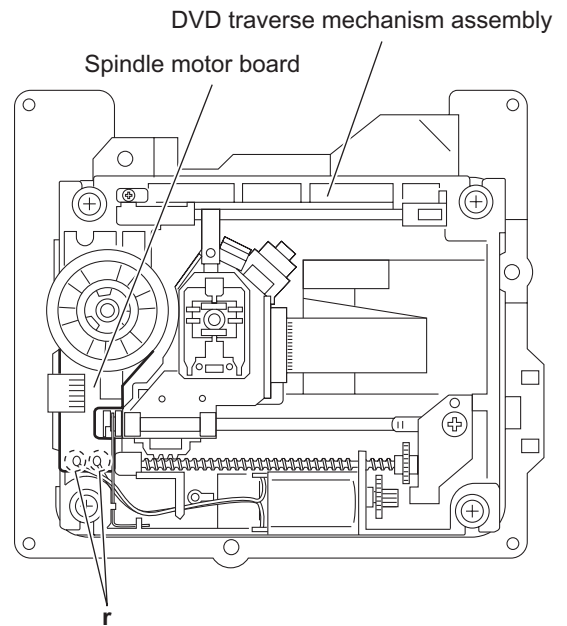

Fig.16
3.2.9 Removing the spindle motor board (See Figs.16 and 17)
- (1) From the top side of the DVD traverse mechanism assembly, remove the wires from the soldered sections **r** on the spindle motor board. (See Fig.16.)